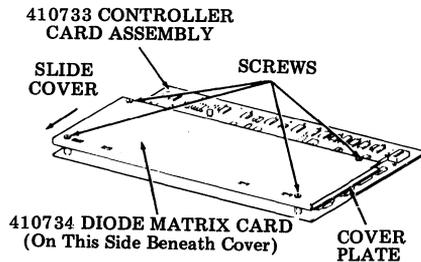

Fig. 19—40C303AC/003 Controller
- (a) Remove cover plate by loosening four screws (Fig. 19) and sliding cover to clear screws then lift off.
- (b) Remove two screws (loosened in (a)) securing the 410734 diode matrix card (see Fig. 19). Slide card outward until free of center posts. Fold card outward using connecting cable as hinge.